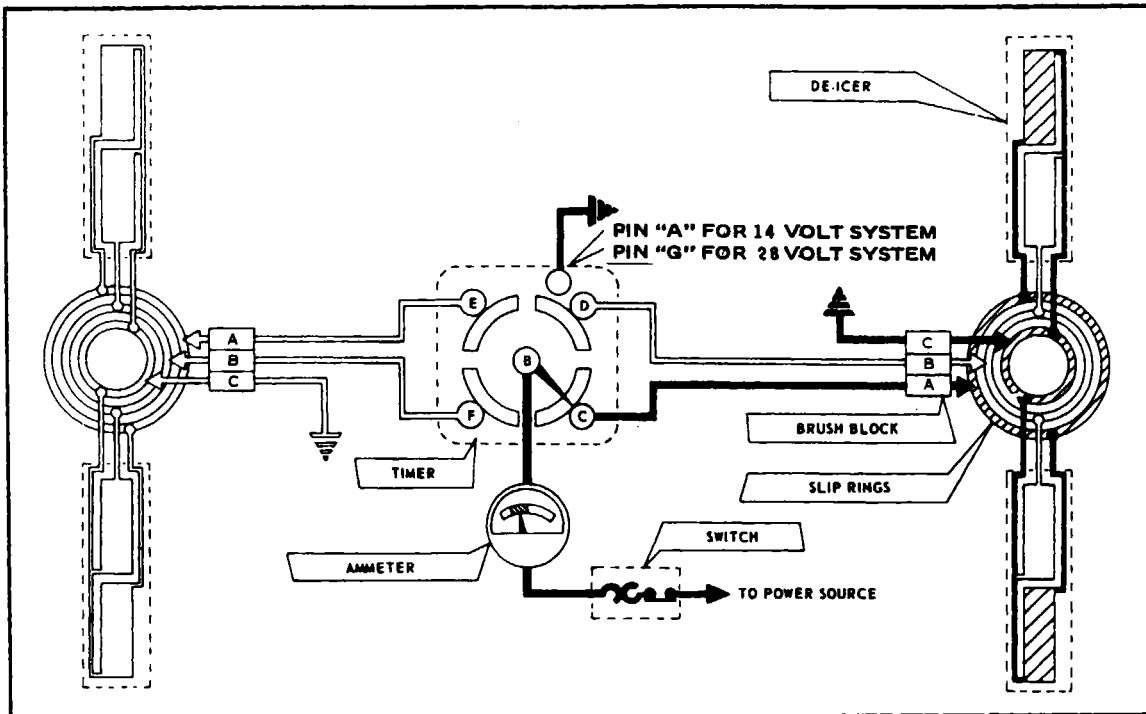
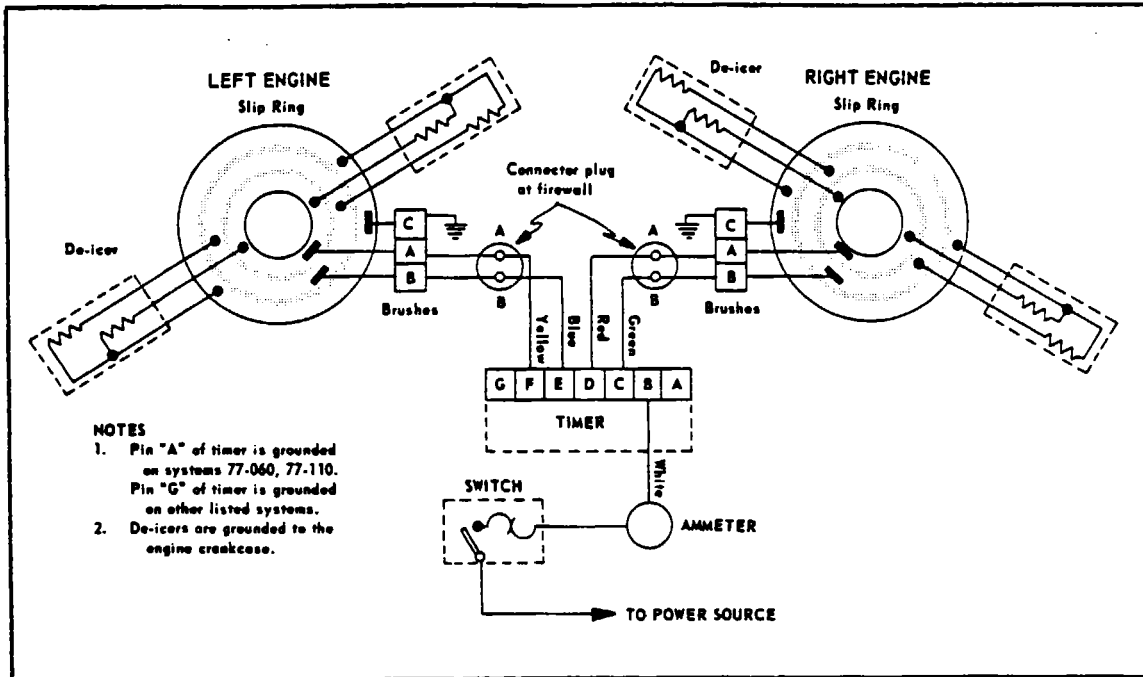
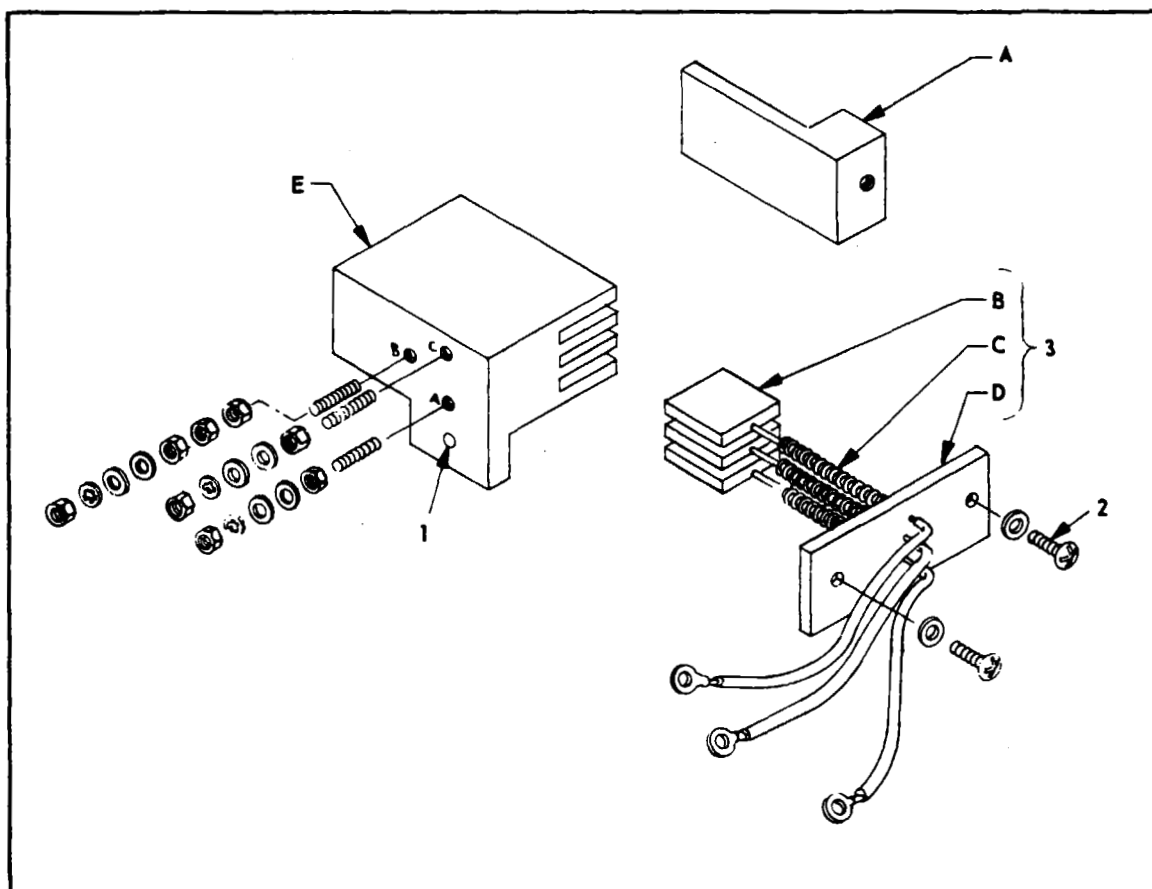
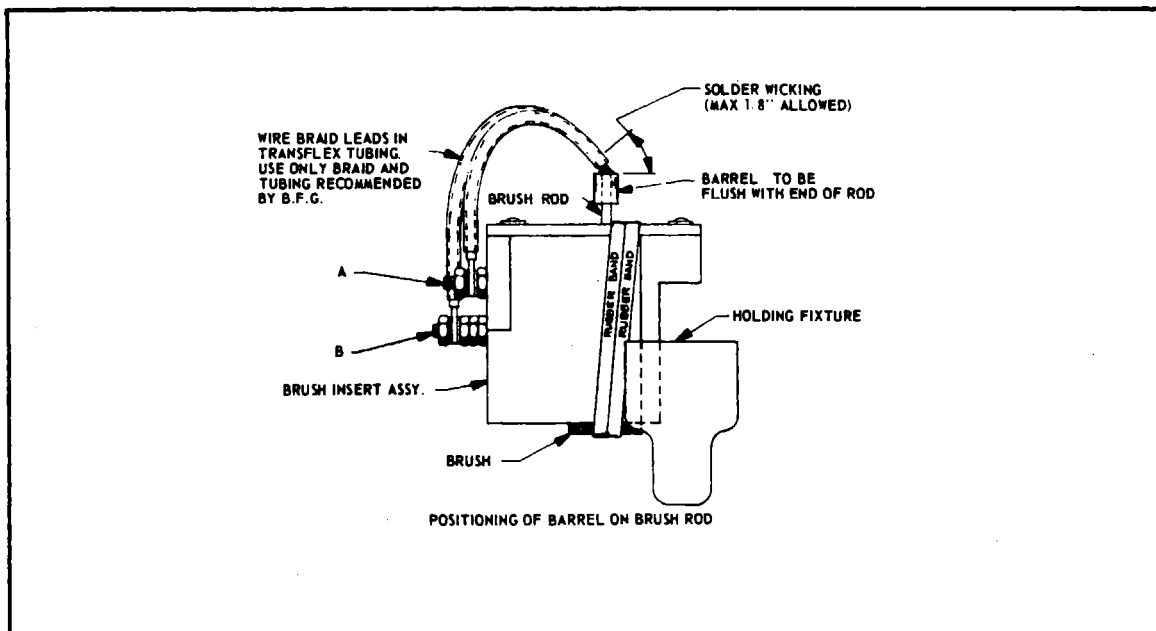

Figure 14-8. Electrical Diagram Showing Cycle Sequence, Phase 1
Figure 14-18. Schematic Wiring Diagram, PA-23-250; PA-23-235; and PA-23-250 (six place). Serial Nos. 27-2000 to 27-2504 incl.
Figure 14-20. Brush Insert Assembly,
Figure 14-22. Holding Brushes for Soldering,
To conserve electrical power, current is cycled to the De-Icer heaters at timed intervals rather than continuously. Each De-Icer has two separate heaters, one for the outer half and one for the inner half. By heating all outer or inner heaters on only one propeller at a time, rotational balance is held during de-icing. Current is drawn from the airplane electrical system through the switch, ammeter and timer. The timer successively delivers current via the slip ring and brush block arrangement to the outer heaters on the right propeller, the inner heaters on the same propeller, the outer heaters on the left propeller and the inner heaters on the left propeller. The timer energizes each of these four phases in turn for about 30 seconds and then repeats the cycle as long as the control switch is on. The cycling sequence given is vital so that outboard heaters on each propeller operate before the inboard heaters. Refer to Figures 14-8 through 14-11 which represent a typical, not a particular, system. Correct circuit diagrams for each system are shown in Figures 14-18 and 14-19. The use of heat at the ice adhesion surface reduces the grip of the ice which is then removed by the centrifugal effect of rotation and the blast of the airstream. Note that a minimum thickness or weight of ice must build-up before centrifugal force becomes important. The system may be used continuously in flight if needed.
The wiring diagrams in Figures 14-18 and 14-19 show the brush, slip ring and De-Icer connections, which vary according to the system number at hand. Be sure to follow the wiring diagram for the specific system involved.
14-40. BRUSH REPLACEMENT AS SUB-ASSEMBLY. (PA-23-250; PA-23-235 and PA-23-250 (six place), Serial Nos. 27-2000 to 27-2504 incl.) (Refer to Figure 14-20.) Dismount the brush insert assembly by taking out the mounting screws and associated hardware at the point labeled (1). Disconnect brush leads at the studs noting the studs to which the leads of the top, middle and bottom brushes are connected. Now take out the screws (2) and associated washers to pull out the brush retainer assembly (3) which includes the brushes, springs and the retainer. Slip the brushes of the new sub-assembly into the slots of the holder and mount the new sub-assembly with screws (2) and associated washers. Connect the brush leads to the studs exactly as noted in removal and check against the wiring diagrams in Figures 14-18 and 14-19 if in any doubt. Mount the brush insert assembly with the screws and associated hardware at (1). (Refer to Paragraph 14-44.)
14-42. REPLACING INDIVIDUAL BRUSHES. (PA-23-250; PA-23-235; and PA-23-250 (six place), Serial Nos. 27-2000 to 27-2504 incl.) Remove brush insert assembly by taking out screws at point labeled (1) of Figure 14-20 and associated hardware. Use tape or rubber band to hold brushes in place while the assembly is gently locked in a vise. (Refer to Figure 14-22.) With soldering gun or iron, free soldered lead and barrel from end of brush rod of brush to be replaced. Loosen tape or rubber band to draw out the old brush and its spring. Install new spring and brush, hold with rubber band or tape. Now solder barrel and brush lead to end of brush rod - barrel must be flush with end of brush rod. (Work on one brush at a time and use the undisturbed brush rods adjacent to see how barrel is to be set.) In this step, see that width of braid lead lies parallel to the retainer plate. Avoid excess solder that would stiffen brush lead - 0.125 of an inch "wicking" is maximum allowable. Brush rods must be free of solder between "B" barrel and brush. (Refer to Paragraph 14-44.)